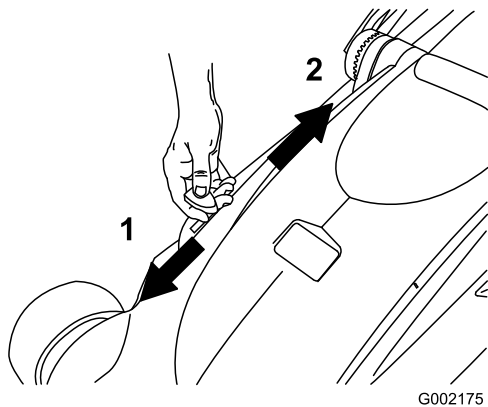

Figure 21
- Move the recycling/bagging lever to bagging mode (Figure 21).
Note: To convert from bagging to recycling, move the recycling/bagging lever to recycling mode (Figure 21) and remove the grass box.